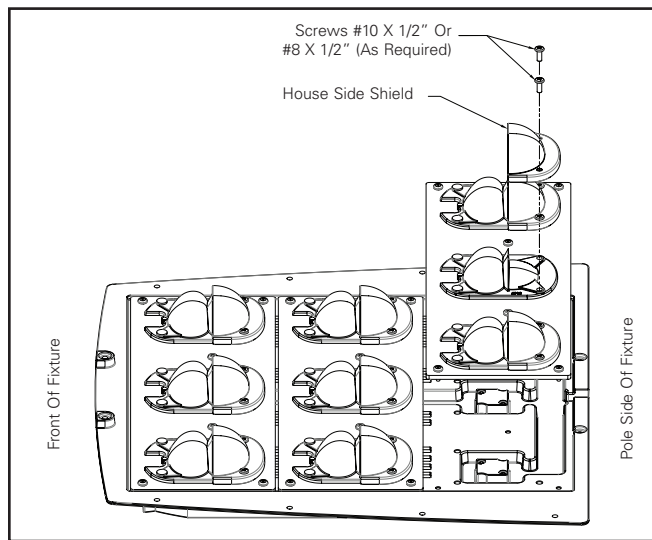

Figure 16.
1. Carefully remove plastic push pins on optics as shown in (Figure 16).
Note: House side shield must ONLY be installed on the back side of the optics as shown in (Figure 16). DO NOT install on the other side of the optic.